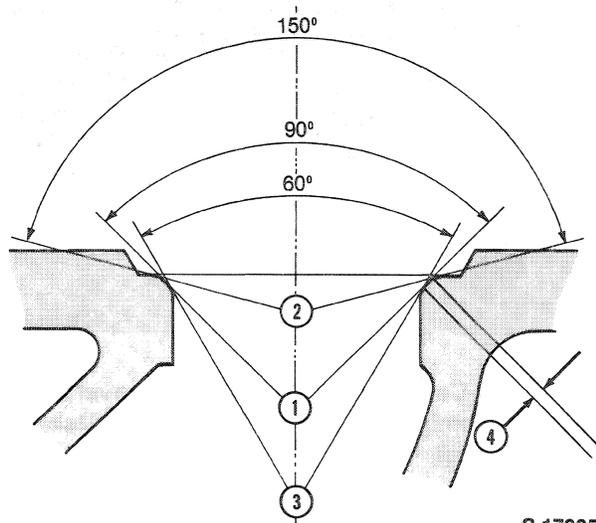

Figure 37
Valve seat grinding requires that the seat be ground to the correct width and established in the proper position as shown, Figure 37.
Valve seat grinding requires that the seat be ground to the correct width and positioned as shown, Figure 37.
2. Check the seat width, Figure 37.